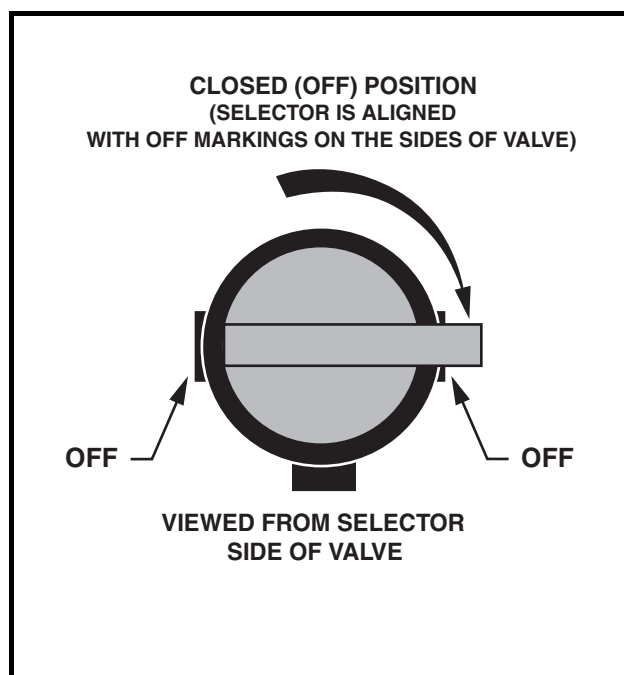

Figure 11 Fuel Shut-off Valve – Closed Position
2. Turn the key switch to the OFF position and place the Forward/Reverse handle in the NEUTRAL position. Remove the key and turn the fuel shut-off valve to the closed (OFF) position when the vehicle is not in use (Figure 11, Page 24). See also Figure 19, Page 32 or Figure 20, Page 32.
- Turn the fuel shut-off valve to the closed (OFF) position (Figure 11, Page 24).
- 3.1. Place the Forward/Reverse handle in the NEUTRAL position. Turn the fuel shut-off valve to the closed (OFF) position (**Figure 11**) and run the engine until fuel remaining in the carburetor and fuel lines is depleted and the engine stalls.